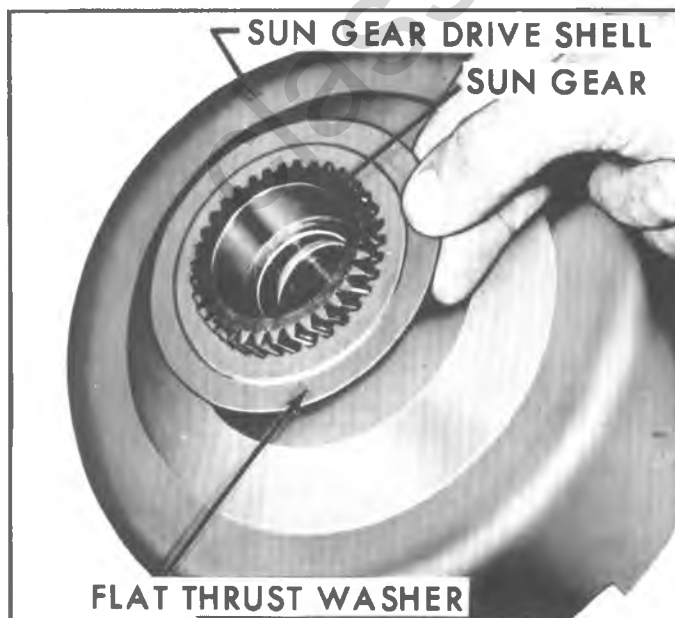

Fig. 7A-91B--Removing Sun Gear to Drive Shell Rear Steel Thrust Washer
4. Remove sun gear to drive shell front retaining ring (fig. 7A-92B). Discard retaining ring.
5. If bushing is to be replaced, refer to Figure 7A-104B.